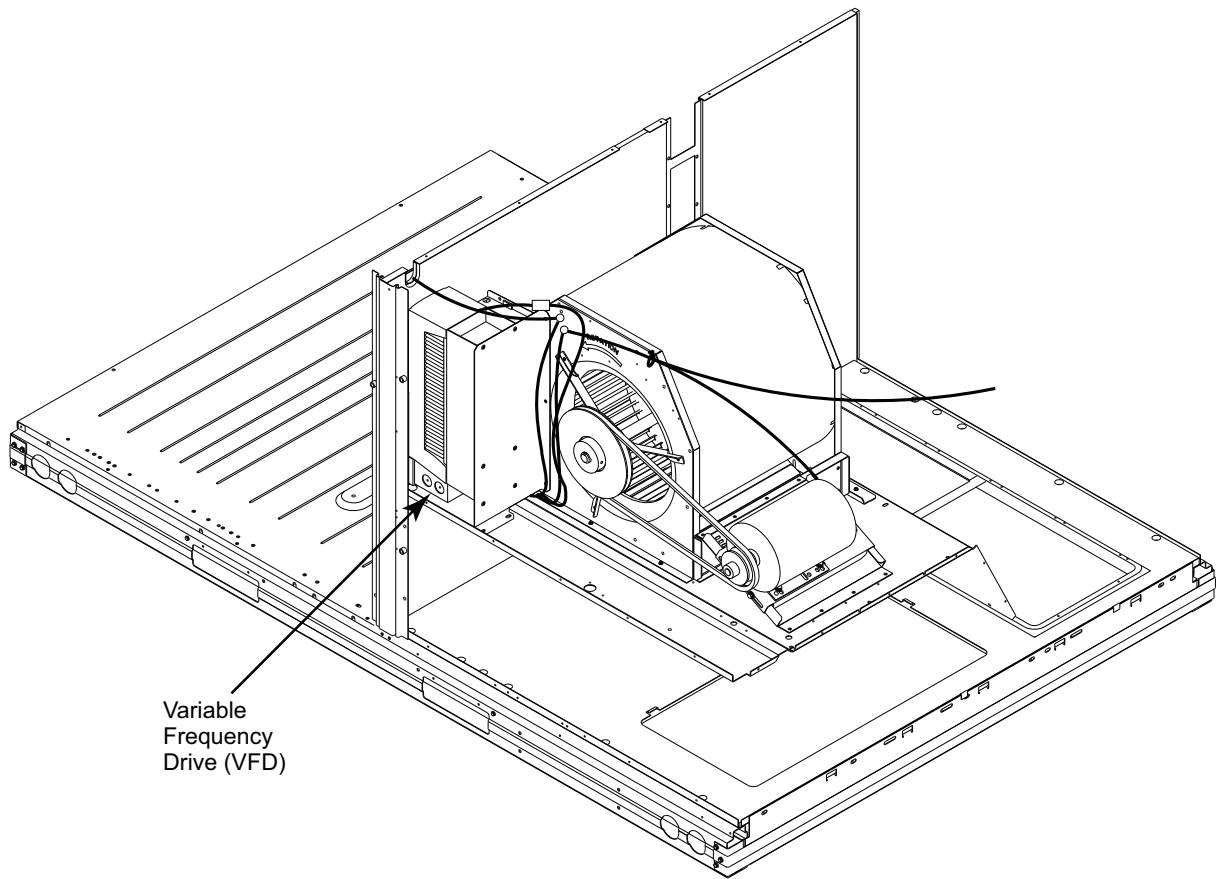

Fig. 4 – VFD Location for the following units: RGS/RAS120
NOTE: See Figs. 4 through 10 for VFD location in the units covered by this document.
- 3.Open the fan access panel (see Figs. 4 through 10 for your specific unit).